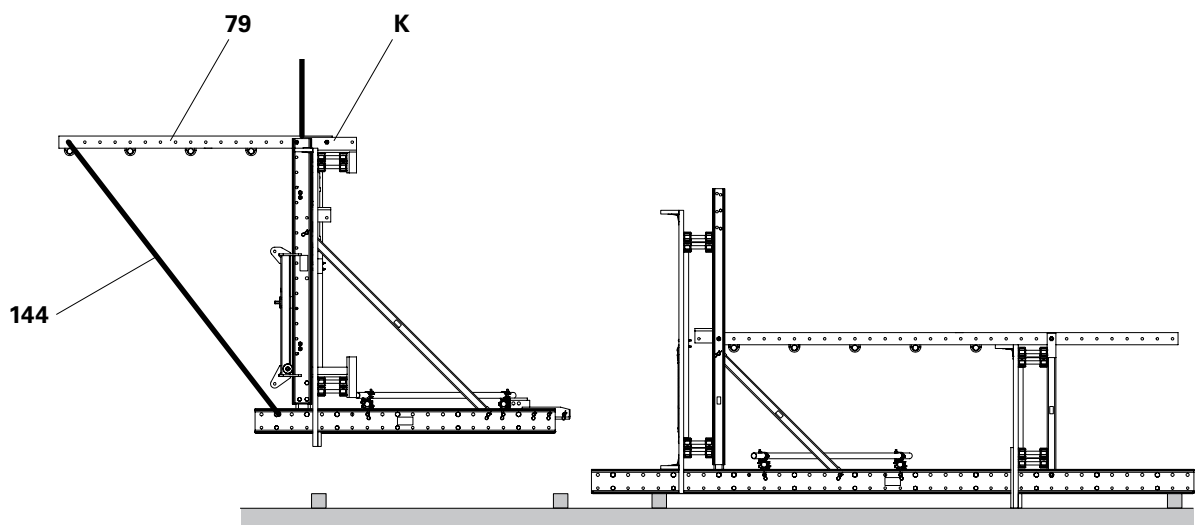

Fig. C4.11
2. Attach bracket unit (**K**) to the Carriage (fitting pin  $\varnothing 21 \times 120$ ), lift out of the Climbing Shoes and place with the Climbing Rails on timbers. (Fig. C4.11)